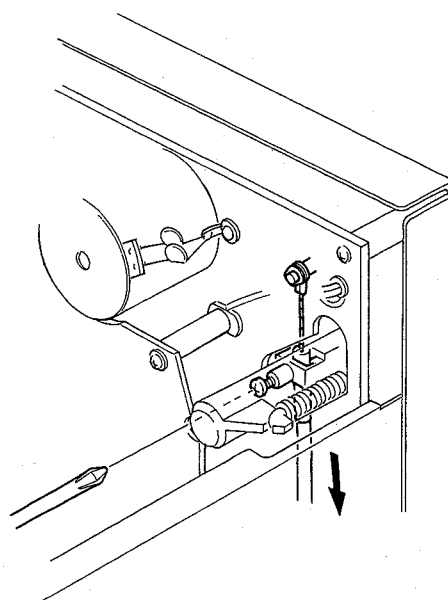

Fig. 5.16.2
- (2) With pushing the Eject Arm by hand, loosen the screw and then pull the Eject Wire in the direction of the arrow until it stops as shown in Fig. 5.16.2.
- (3) Tighten the screw, then apply a quantity of lock tight paint.